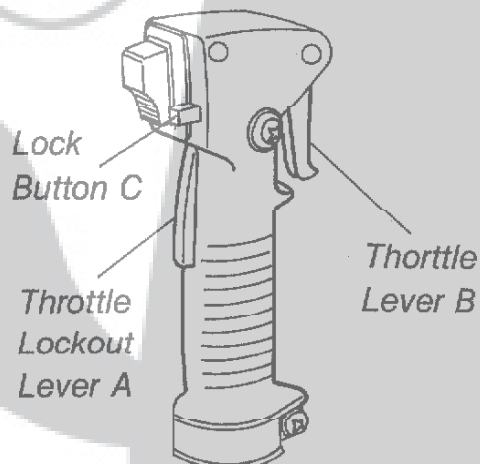
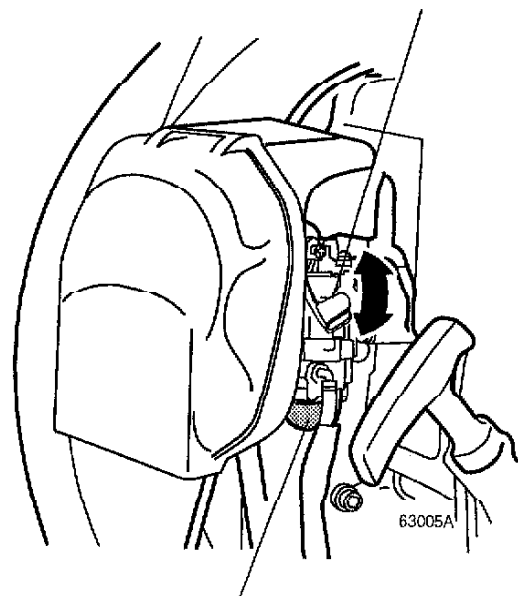

Figure 5
Figure 6 Fuel Primer Bulb
3. Prime the fuel system by depressing the fuel primer bulb repeatedly until the bulb fills with fuel, and move the choke lever up (closed position). See Figure 6.
3. Move the choke lever down (open position). See Figure 6.
3. With the spark plug removed, open the choke (Figure 6), put the throttle lever in the full throttle position (Figure 5), then clear excess fuel from the combustion chamber by cranking the engine several times.